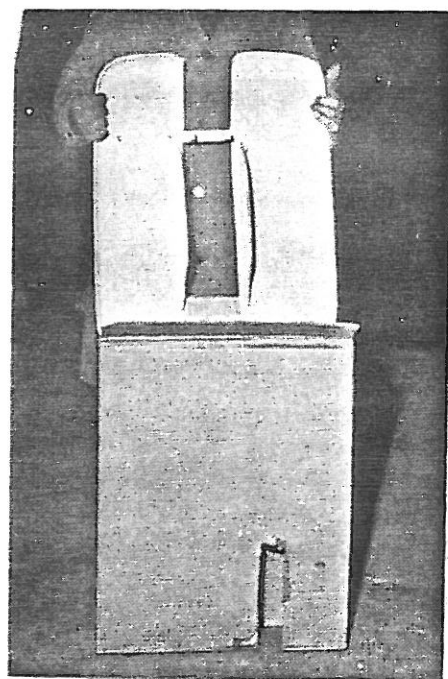

fig. 2
2. Remove handlebars and large boxes containing leg shield (model 14001) and seat from crate. (Figs. 2 and 3).